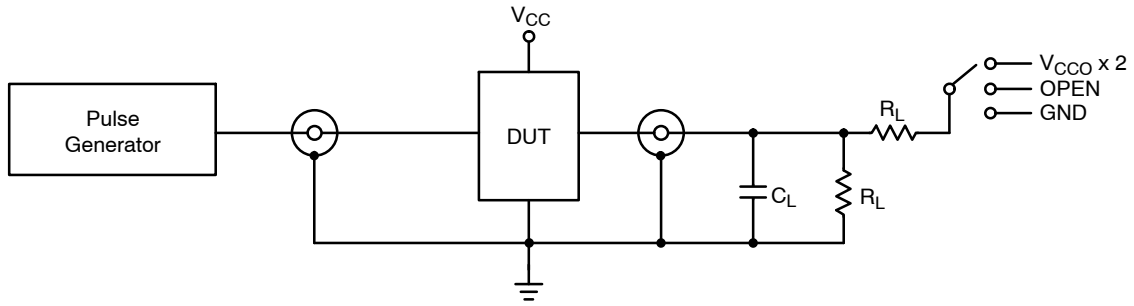

Figure 3. AC (Propagation Delay) Test Circuit
1. Propagation delays defined per Figure 3.